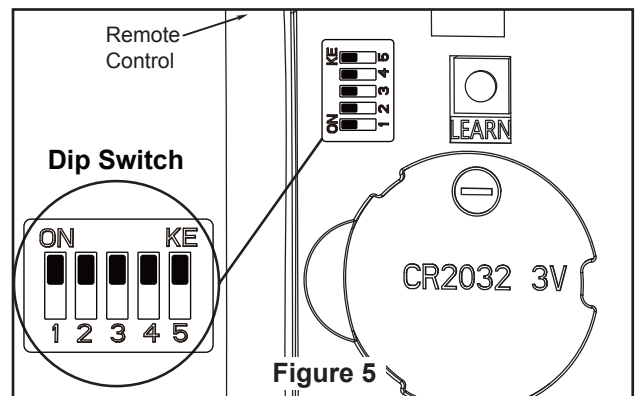

Figure 5
4. After connections have been made, put the white and green leads to one side and the black leads towards the other side, the connection should be turned upward and carefully push leads into the outlet box. The wires should be spread apart with the grounded conductor and the equipment-grounding conductor on one side of the outlet box and the ungrounded conductor on the other side. (Figure 5)
- 7.** To set the remote code same positions as the receiver with a small screwdriver or ball point pen (neither included), slide dip switches firmly up or down. (Figure 5)